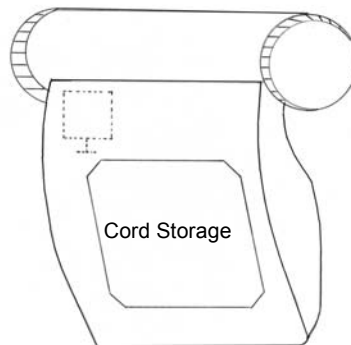

Fig. 5
- Wind the main cord & store inside the main cord storage (#19) cavity at the rear of the control panel. Fig. 5